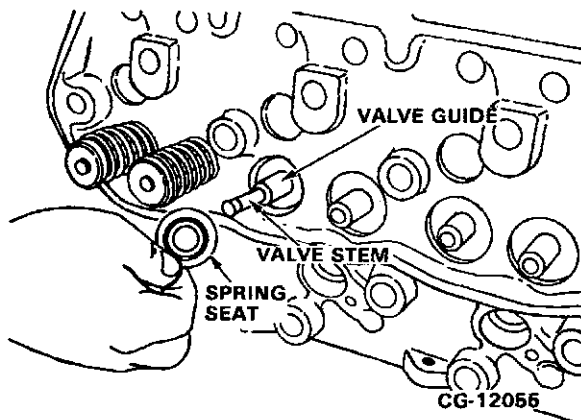

Figure 4.61. Install Spring Seat
5. Install the spring seat over the valve stem and guide. Refer to Figure 4.61.